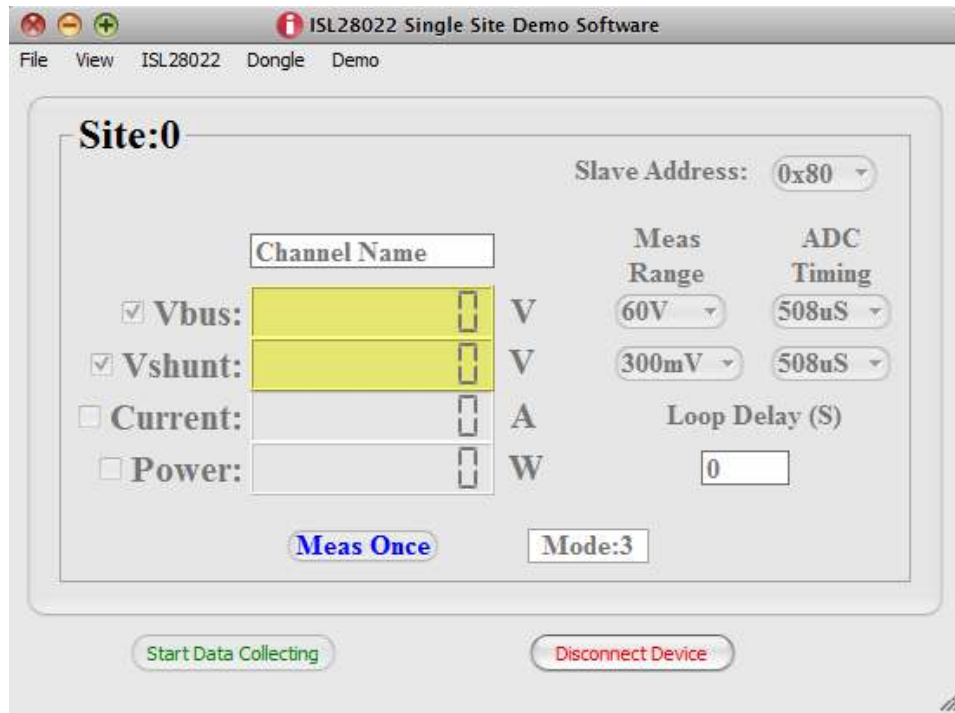

FIGURE 3. ISL28022 EVALUATION KIT SOFTWARE WINDOW
- To run the program, go to the “Start” menu and choose the ISL28022 Evaluation Kit folder, then choose the ISL28022 Evaluation Kit icon. Once clicked, the demo software window should appear as illustrated in Figure 3.
The file name entered in the dialog box is the base name for all files saved. A unique named file is generated for each measured parameter (Vbus, Vshunt, Current, Power) across 8 channels. The software only saves data to a file for each measured parameter selected. If a measured parameter is not selected, then a file with the non selected measured parameter is not generated. For example, power and current files would not be generated for the configuration of the DPM window shown in Figure 3 on page 3.